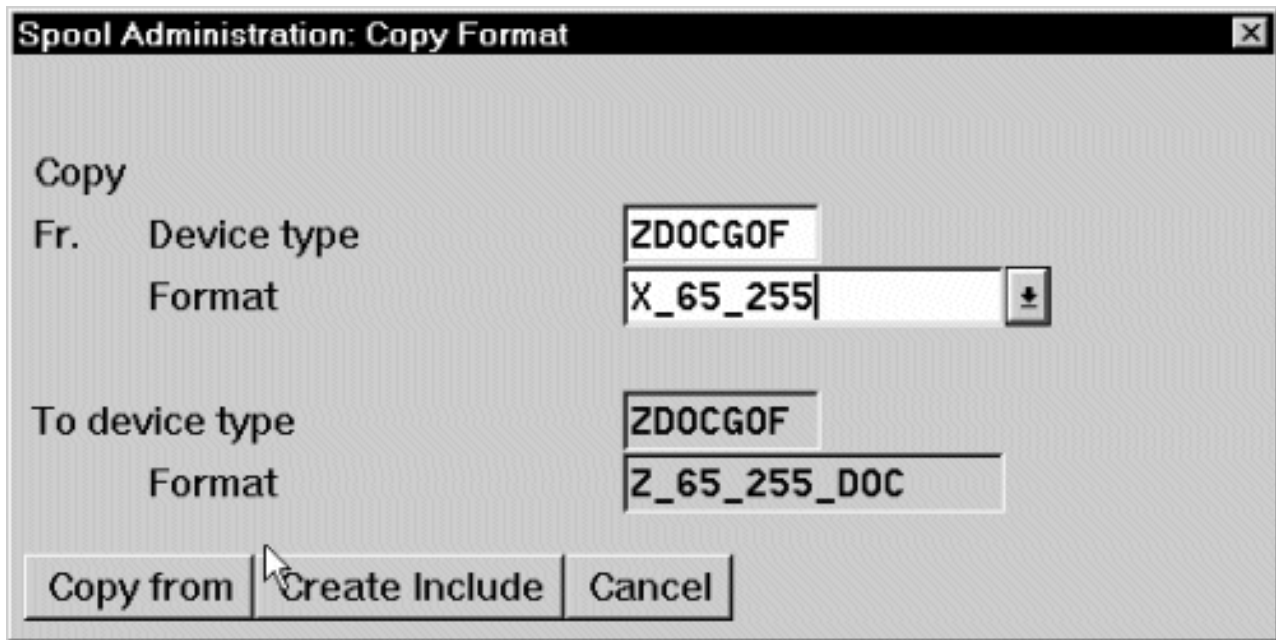

Figure 55. Spool Administration: Copy Format window
- From the **Spool Administration: Copy Format** window, you can see that the system has filled in the information from the **Maintain Format for Device Type** window as shown in Figure 55: